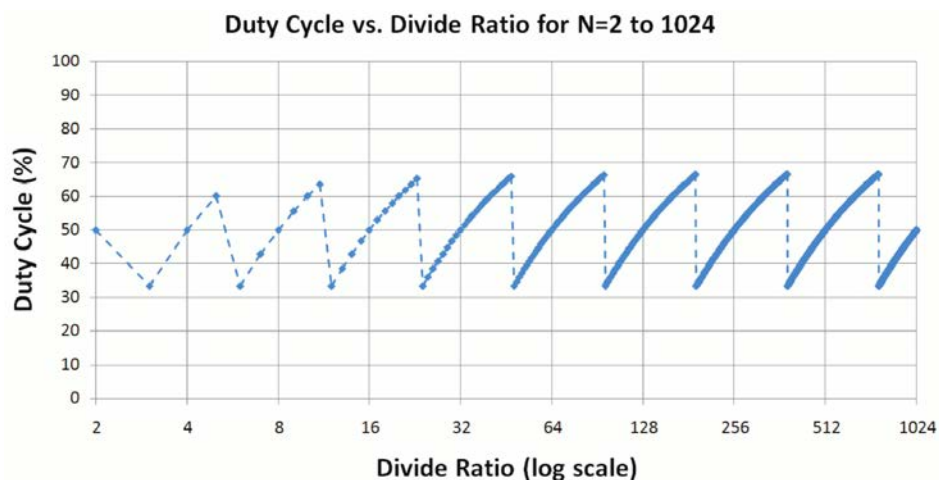

Figure 19. Duty cycle versus divide ratio
**Figure 19** is a plot of the duty cycle versus the divide ratio for N = 2 to 1024.